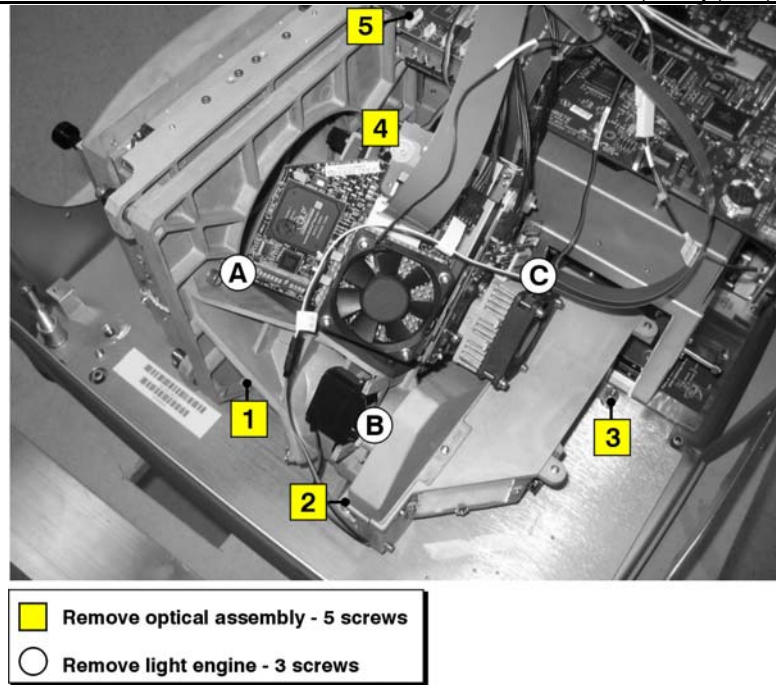

Figure 55. Remove Optical Assembly
8. Remove the optical assembly (includes optical mount and light engine) from the projector by removing the following five (5) screws (Figure 55.):
- Two (2) screws located on the fold mirror side (#1 & 2)
- One (1) screw located behind the red DMD (#4)
9. Separate the light engine from the optical mount by removing the three (3) screws identified by circles in Figure 55.